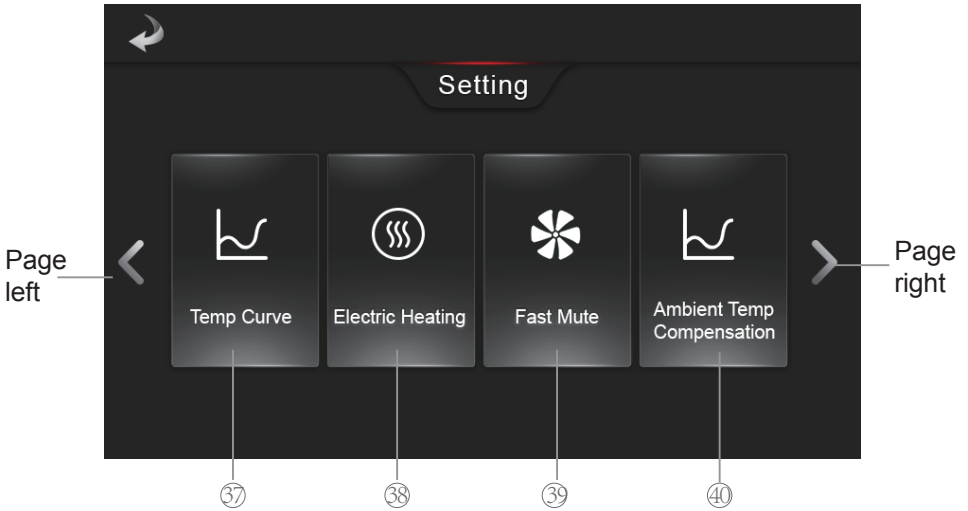
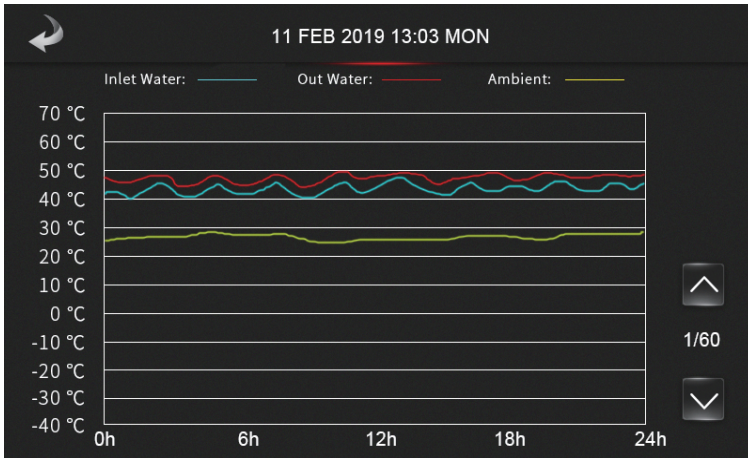
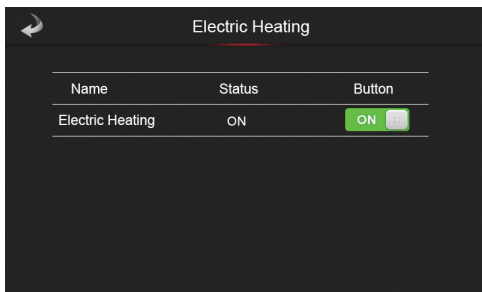

Fig. 10 Setting interface
Fig.17 Temperature Curve interface
Fig.18-1 Electric Heating interface
In the Setting interface (Fig.10), press Temp Curve button ③⑦ to inquire the inlet/outlet/ambient temperature curve interface (Fig.17).
In the Setting interface (Fig.10), while the button  displays "OFF Electric Heating", firstly make sure the unit is operated in heating mode, then press Electric Heating button  to jump to Electric Heating interface (Fig.18-1), click the button to be ON, the electric auxiliary heating mode is activated; while the unit is in running in electric auxiliary heating mode, turn off the electric heating function by the same operation steps.
In the Setting interface (Fig.10), while the button ③⁹ displays “OFF Fast Mute” and “❌”, press this button ③⁹ to enable fast mute function and it displays “ON Fast Mute” and “🔇”; while the fast mute mode is enable, press this button again to turn off it. Fast Mute is only available when this function is enable, or the fast mute function cannot be set.
In the Setting interface (Fig.10), press Ambient Temp Compensation button ④⁰ to jump to Weather Compensation interface. Click the Slope button ④⁶ and the Offset button ④⁷ to set the parameter.